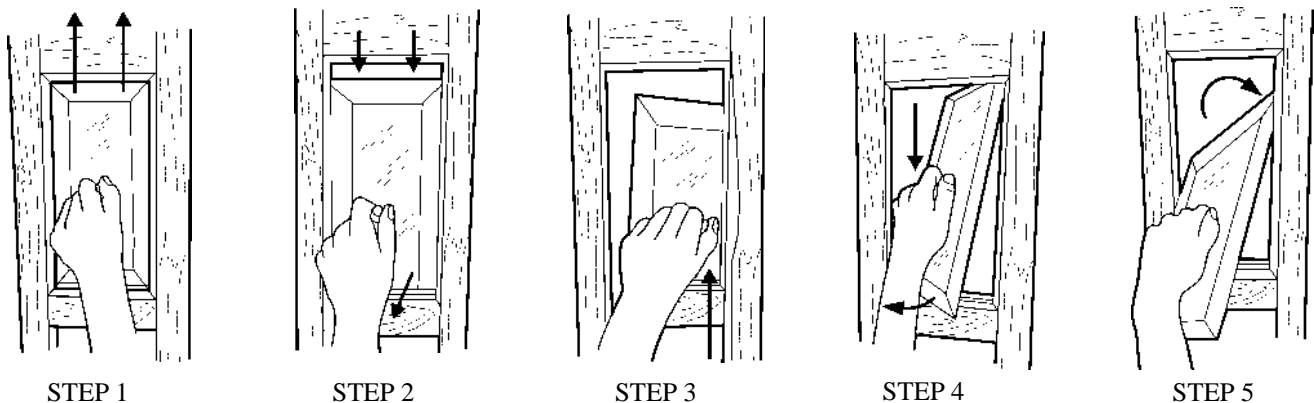

Figure 1
STEP 1 UNPACKING YOUR CLOCK (Figure 1, 2, & 3)
B. The clock only needs to be "sight" level to operate correctly. We have placed an adjustable leveling foot on each corner to help you level the clock. (Figure 1)